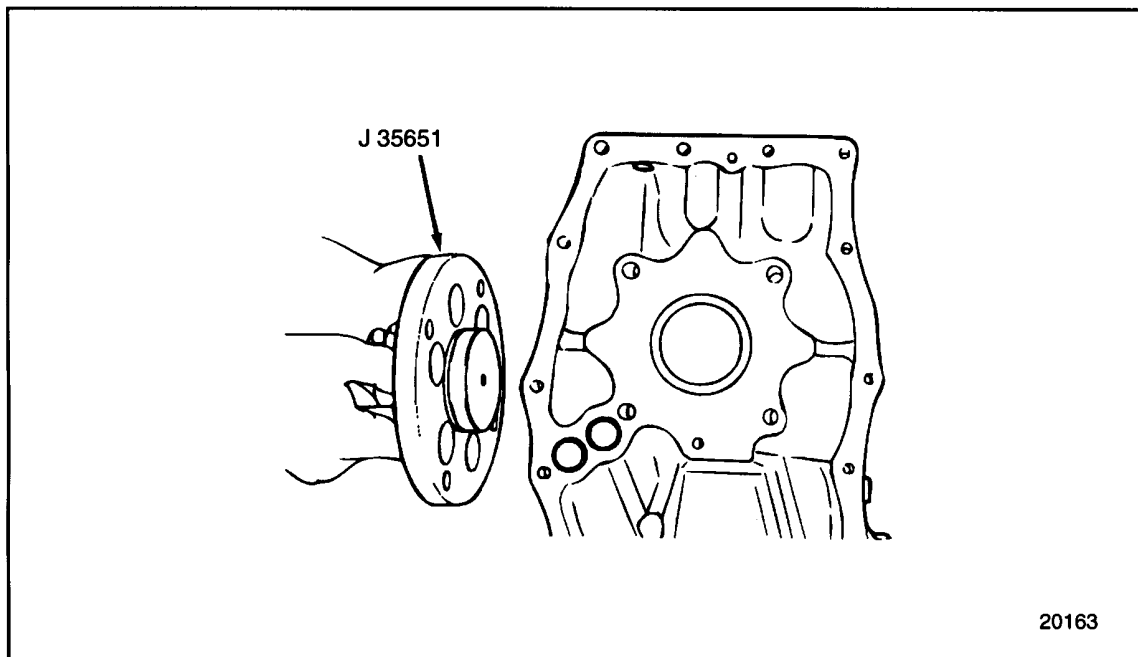

Figure 1-184 Gear Case Alignment Plug
2. Insert Gear Case Alignment Plug, J 35651, into the bull gear and camshaft idler gear hub recess in the cylinder block. See Figure 1-184.